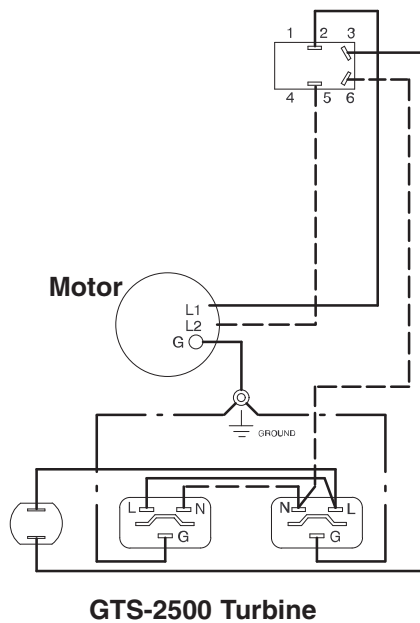
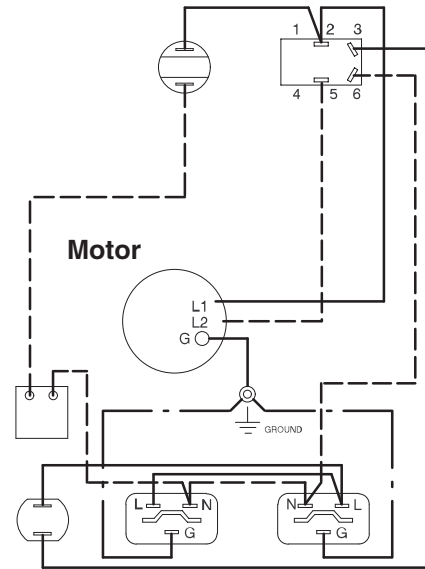

Fig. 10
Fig. 11
2. Remove turbine gasket (25).
3. Remove 3 screws (6).
4. Remove plate (82) and 3 spacers (83).
6. Rotate turbine (24) from outlet fitting (18) and lift up from turbine spacers (23).
10. Reconnect wires according to applicable turbine. See Fig. 10, Fig. 11, or Fig. 12 schematics.